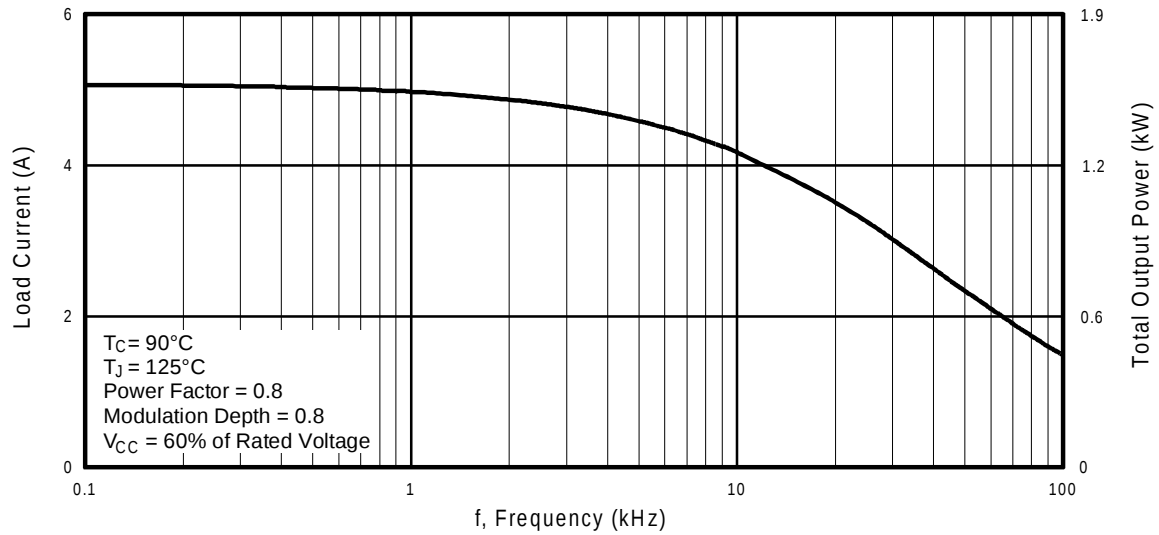

Fig. 1 - RMS Current and Output Power, Synthesized Sine Wave
See Fig. 1 for Current vs. Frequency curve
3.5 A_{RMS} per phase (1.1 kW total) with T_C = 90°C, T_J = 125°C, Supply Voltage 360Vdc, Power Factor 0.8, Modulation Depth 80% (See Figure 1)